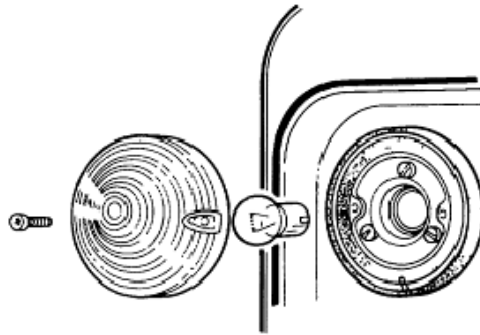

Figure 151 Turn Indicator Light Exploded View
- Remove the two screws securing the lens (Figure 151).